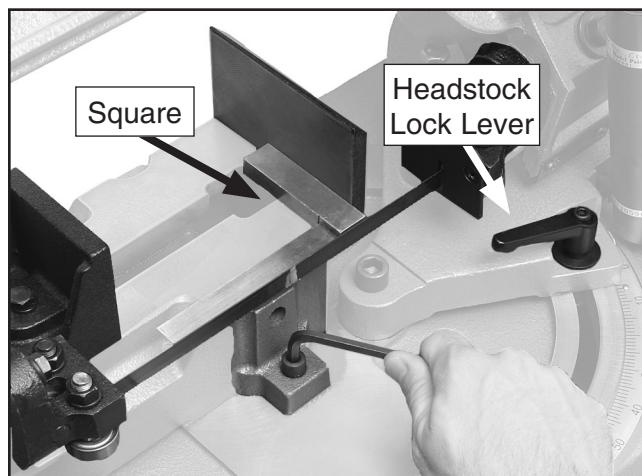

Figure 13. Squaring vise to blade, headstock, and table scale.
2. Using a 6mm wrench, loosen the two cap screws that hold the vise to the table (see **Figure 13**).